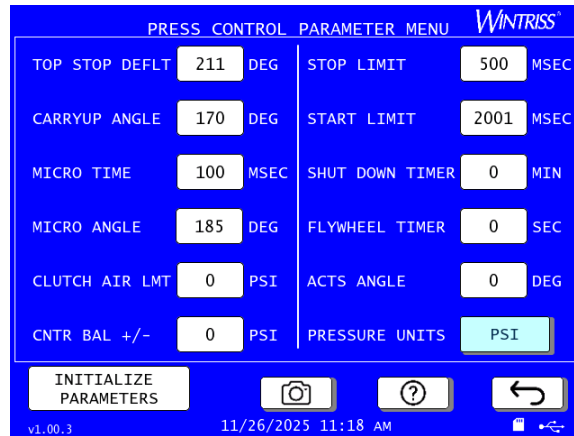

Figure 3-50. Press Control Parameters Menu
1. In the Press Control Parameters menu, Figure 3-50, press the entry box next to MICRO TIME. The on-screen numeric keypad appears.
To disable clutch pressure monitoring, in Initialization mode, enter zero (0) in the Clutch Air LMT field in the Press Control Parameters menu, Figure 3-50, previous section. When you do so, clutch pressure readings and the Low Limit setting are not displayed in Run mode.